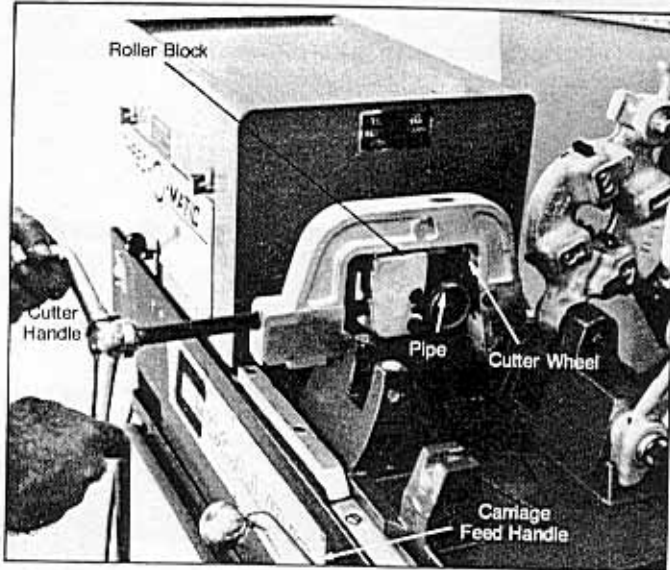

Figure 7 — Cutting Pipe
3. With roller block retracted to fit over pipe or rod, bring cutter down and turn cutter handle (Fig. 7) clockwise to force cutter wheel against stock to make cut.